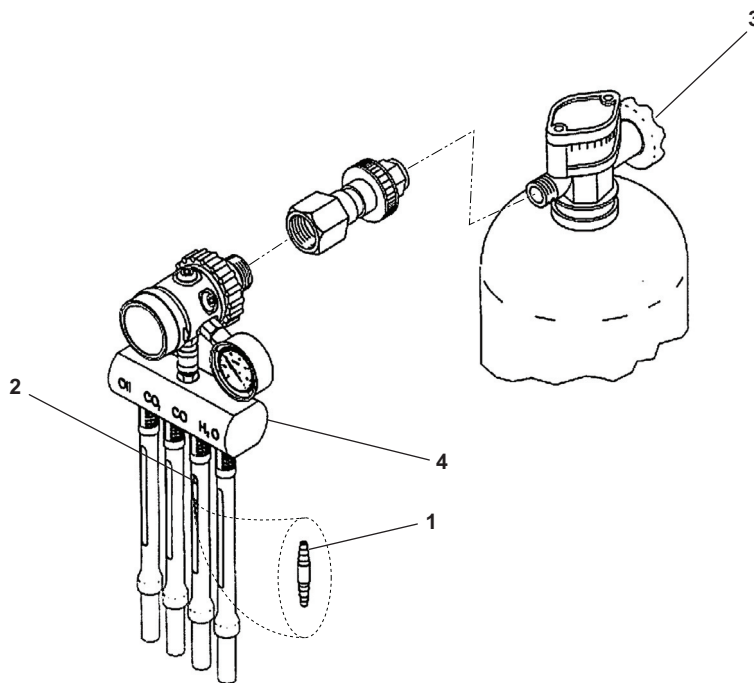

Figure 6-60. Barbed Fitting and Tube Holder
- (21) To perform the oxygen measurement, insert the straight barbed fitting (figure 6-60, item 1) of the Drager breathing air test kit into the carbon monoxide (CO) tube holder (figure 6-60, item 2).
- (22) Ensure that the SCBA cylinder valve (figure 6-60, item 3) is OPEN and sample air is flowing from the measuring device (figure 6-60, item 4).